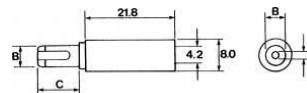

Figure 5. DC Power Plug
4. Use a DC power plug pin with a 2.5-mm diameter (RS Order No. 486-634 or 455-097) (see Figure 5).